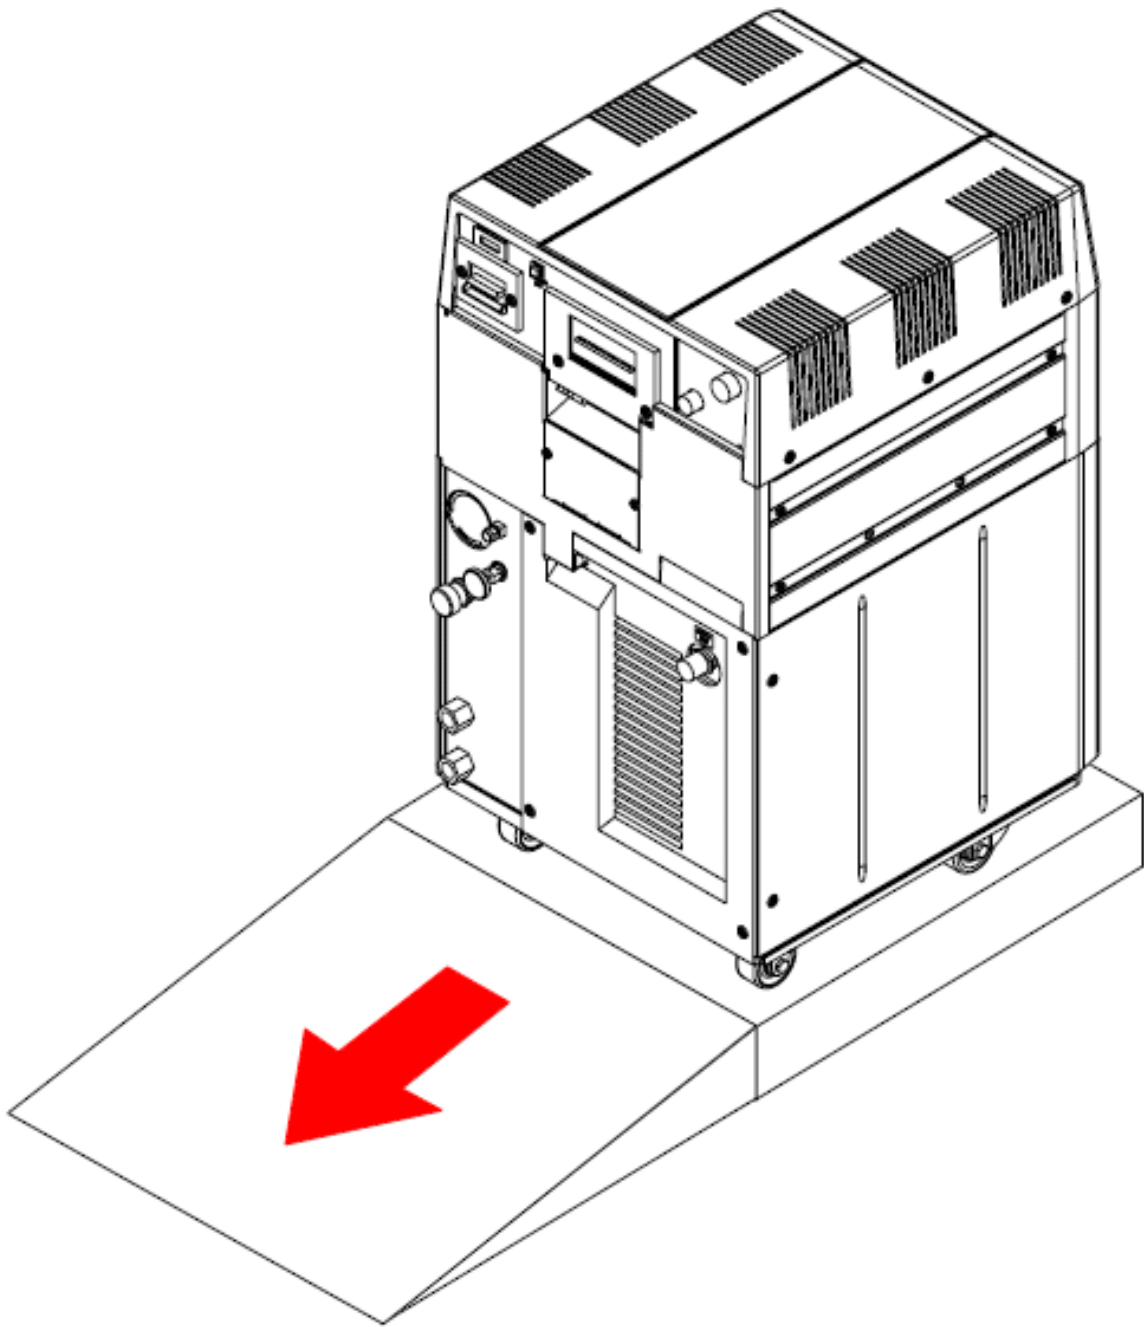

Figure 3-1: Using the Shipping Carton Ramp
4. Swing the ramp down until the end touches the floor as shown in Figure 3-1.
6. Carefully roll the Compressor down the ramp and onto the floor as shown in Figure 3-1.